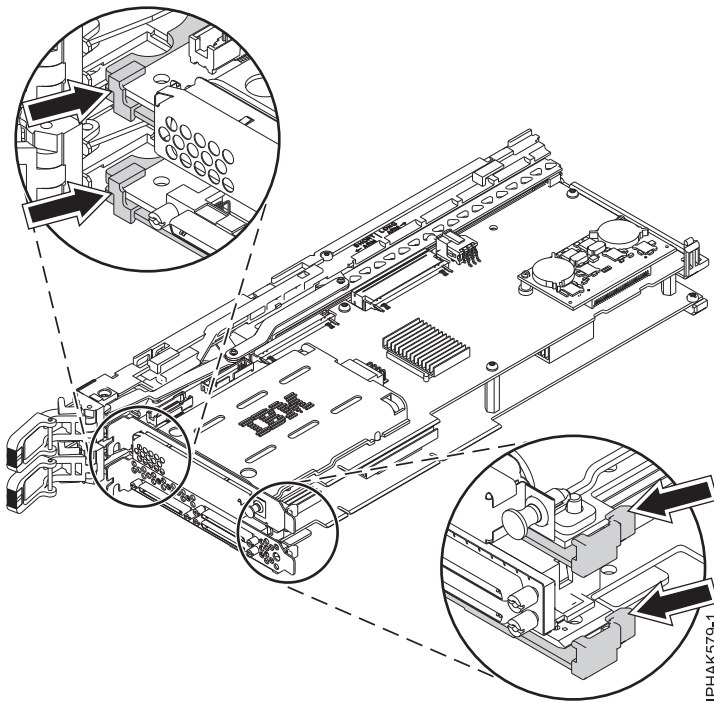

Figure 74. Detaching the corners of the cassette assembly
- a. Remove the top corner of the double-wide adapter tail stock from the notches in the cassette assembly. Then move the double-wide adapter tail stock up to free the bottom of the double-wide adapter tail stock from the cassette assembly. See Figure 74.